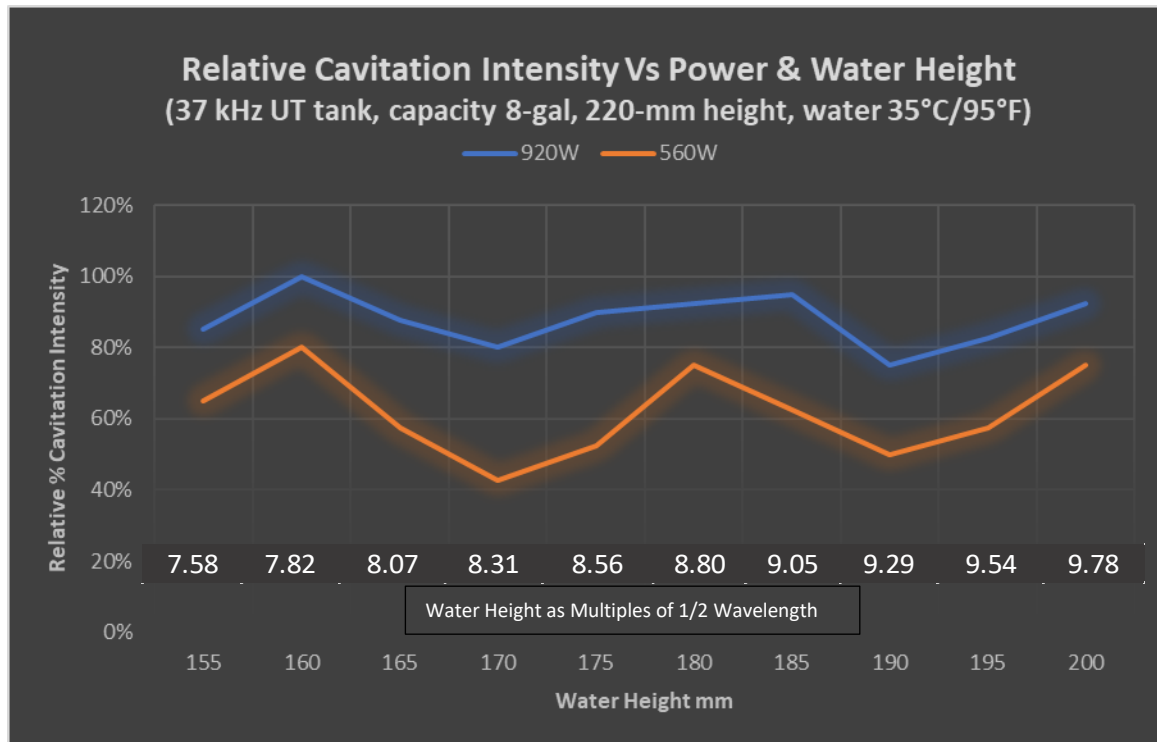

Figure 54 – Relative Cavitation Intensity vs Power & Water Height
XIV.1.9 Tank Water Height. For bottom firing UCM, the height of water above the transducers can affect the cavitation intensity. In the paper *Observations of water cavitation intensity under practical ultrasonic cleaning conditions*, Bogdan Niemczewski, Tele- and Radio Research Institute, ul. Ratuszowa 11, 03-450 Warsaw, Poland, 18 November 2005 (12), the cavitation intensity in an industrial 8-gallon UCM at two power levels (560W & 920W) and ten (10) different water levels (155 mm to 200 mm) was tested. The results relative to the maximum cavitation intensity recorded are shown in **Figure 54**. **Figure 54** clearly shows
the effect of power on cavitation intensity. The effect of water height which can affect standing waves is evident. There is discussion that for the maximum cavitation intensity the water height should be whole multiples of $1/2$ the wavelength and the data in **Figure 54** is suggestive of that.